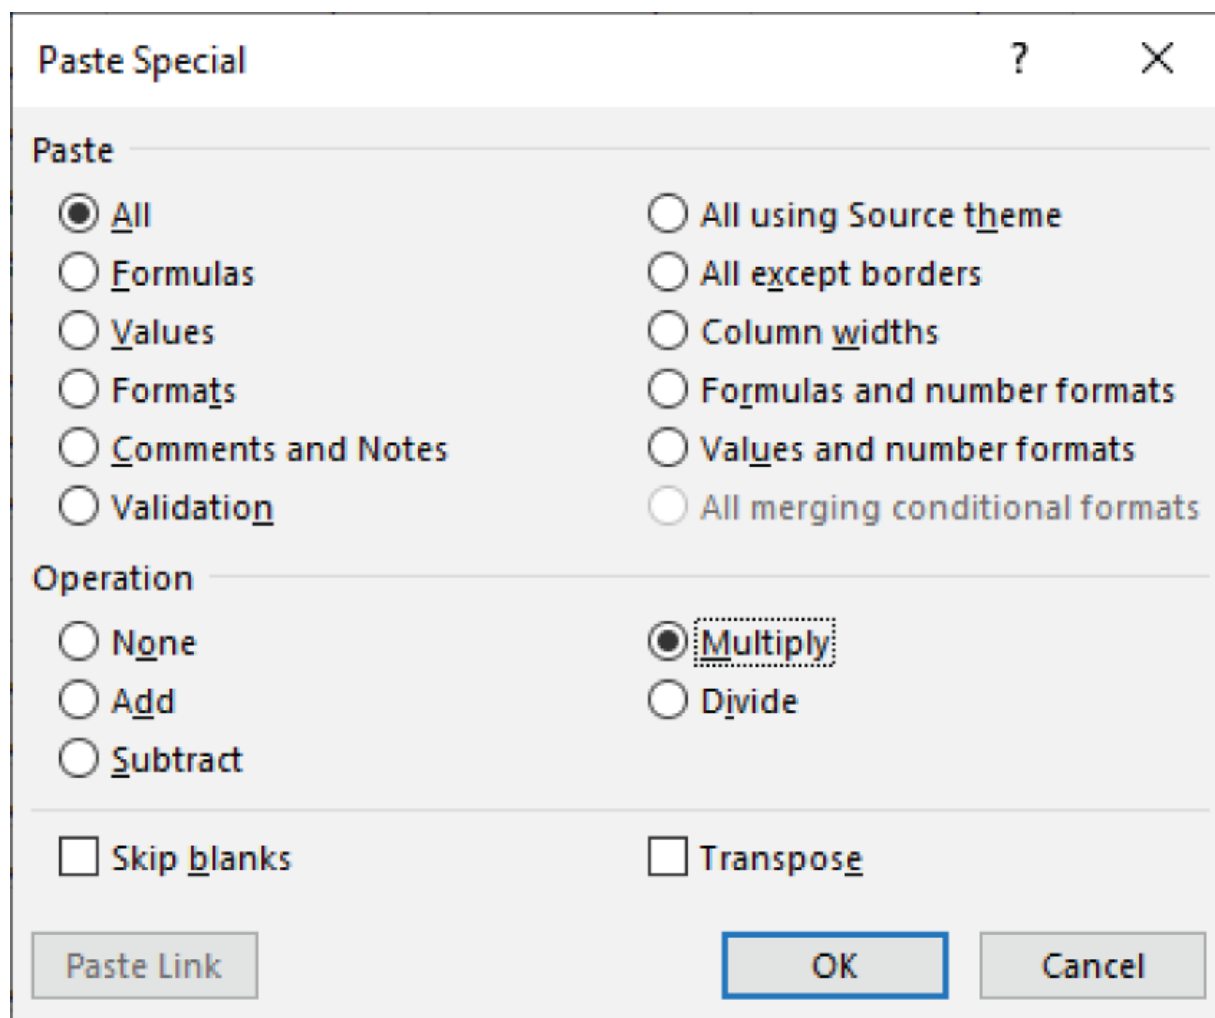

Figure 2.48: Reversing signs via Paste Special ⇨ Multiply
5. Select Multiply as shown in Figure 2.48 and click OK.